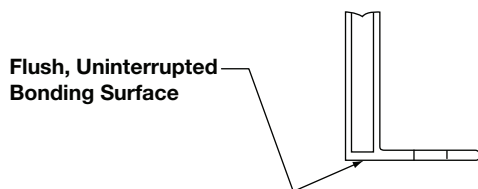

FIGURE 2
**NOTICE:** GROUNDING TRANSITION WASHERS ARE DESIGNED FOR USE WITH PANELS THAT HAVE A FLUSH, UNINTERRUPTED BONDING SURFACE (SEE FIGURE 2).